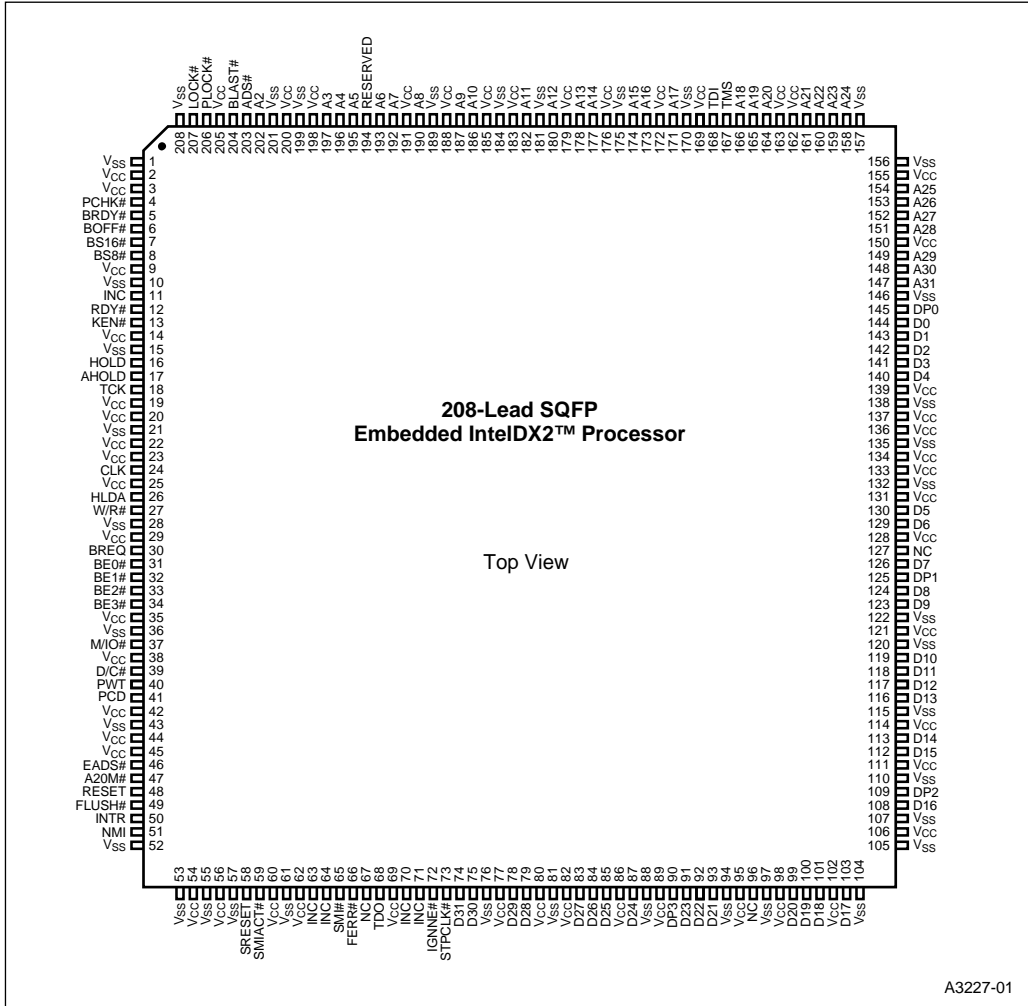

Figure 2. Package Diagram for 208-Lead SQFP Embedded Intel® IX2™ Processor
- Figure 2, Package Diagram for 208-Lead SQFP Embedded IntelDX2™ Processor (pg. 4)